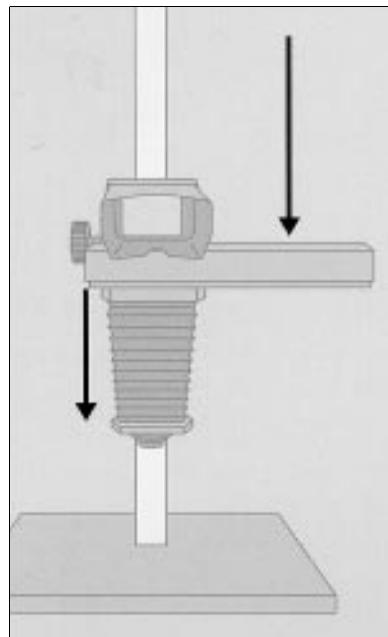
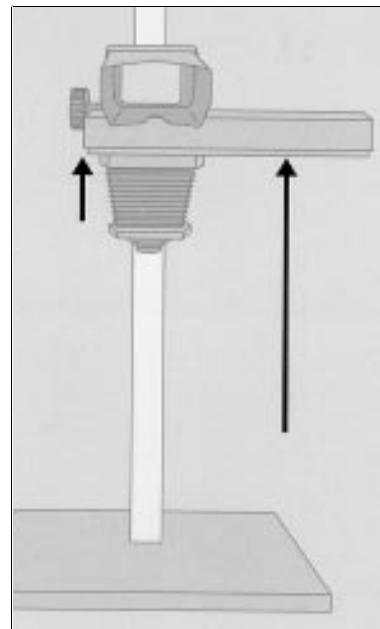

Figure 3-27. Lower Camera and Lengthen Bellows
Figure 3-28. Raise Camera and Shorten Bellows
**General Rule:** To increase the size of the image on the ground glass, lower the camera and lengthen the bellows (figure 3-27). To decrease the size of the image, raise the camera and shorten the bellows (figure 3-28).